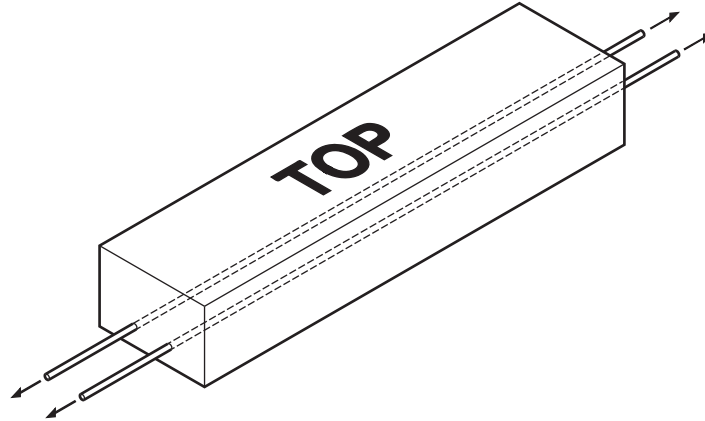

Fig. 10.1
- 10 Fig. 10.1 shows a concrete beam with two reinforcing rods running through it.
- (iv) Fig. 10.1 shows the marking on the top face of the beam.